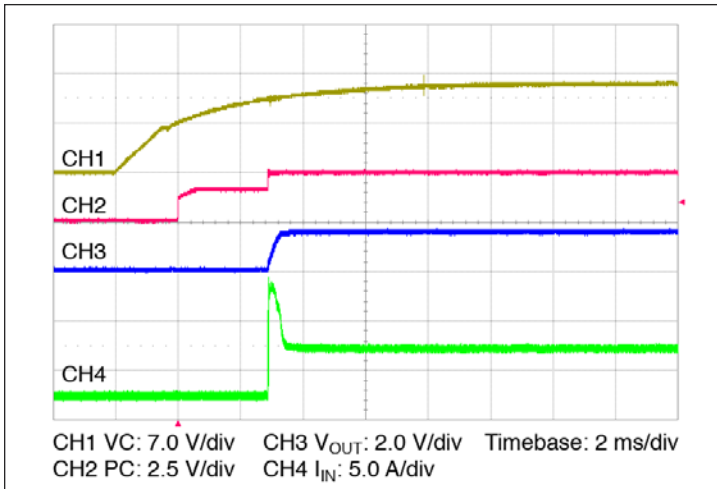

Figure 11 – Start up from application of VC;  $V_{IN}$  pre-applied
- Stand-alone operation (VC applied after VIN): In this case the VTM output will begin to rise upon the application of the VC voltage (See Figure 11). The Adaptive Soft Start Circuit (See Section 11) may vary the output rate of rise in order to limit the inrush current to its maximum level. When starting into high capacitance, or a short, the output current will be limited for a maximum of 120  $\mu$ /sec. After this period, the Adaptive Soft Start Circuit will time out and the VTM module may shut down. No restart will be attempted until VC is re-applied or PC is toggled. The maximum output capacitance is limited to 9100  $\mu$ F in this mode of operation to ensure a successful start.